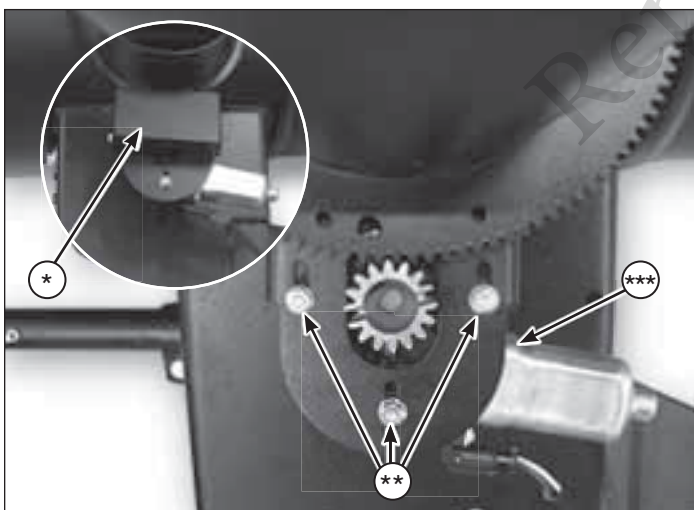

Figure 32
1. Remove the cover (*, Figure 32) and loosen the three screws (**) securing the electric chute rotator motor (***).